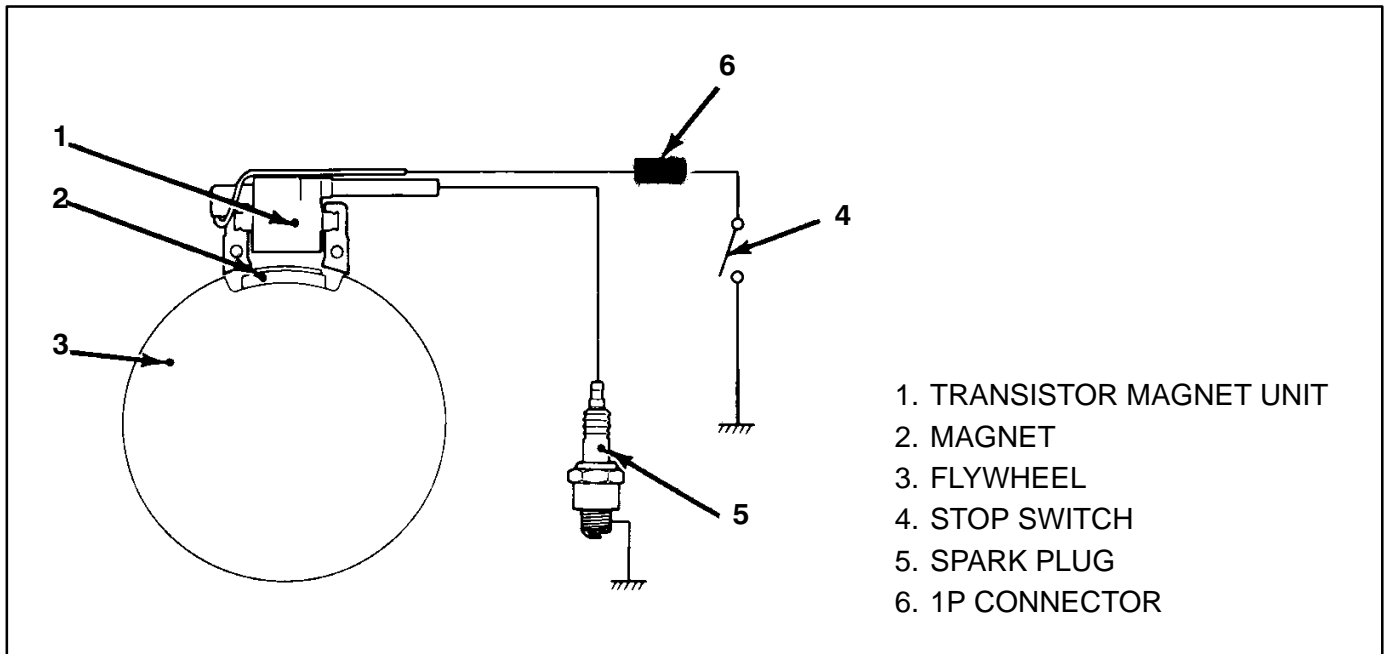

FIGURE 6-3. TRANSISTOR MAGNET IGNITION, GH170 AND GH280 ENGINES
Transistor Magnet Ignition: This ignition system consists of two parts: an ignition control unit to generate primary current and secondary high voltage, and an ignition time control unit to induce high voltage in the ignition coil by controlling the primary current. A magnet mounted to the flywheel induces a voltage in the ignition control unit when the engine is cranked over. See Figure 6-3.
3. Disconnect the 1P connector (Figure 6-3) from the stop switch.